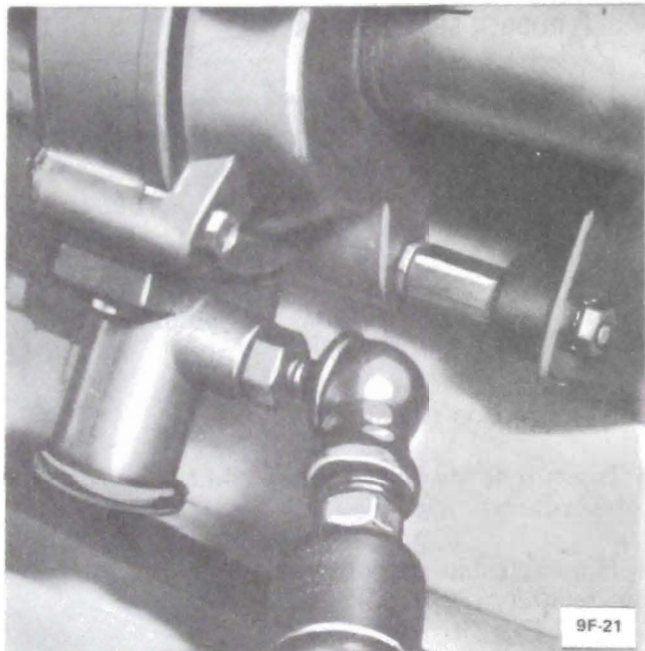

Figure 9F-10 - Filling System Through Service Valve
3. Inflate system through service valve to maximum available pressure. See Figure 9F-10. If available pressure is less than 140 psi, start engine to build up reservoir to this pressure.